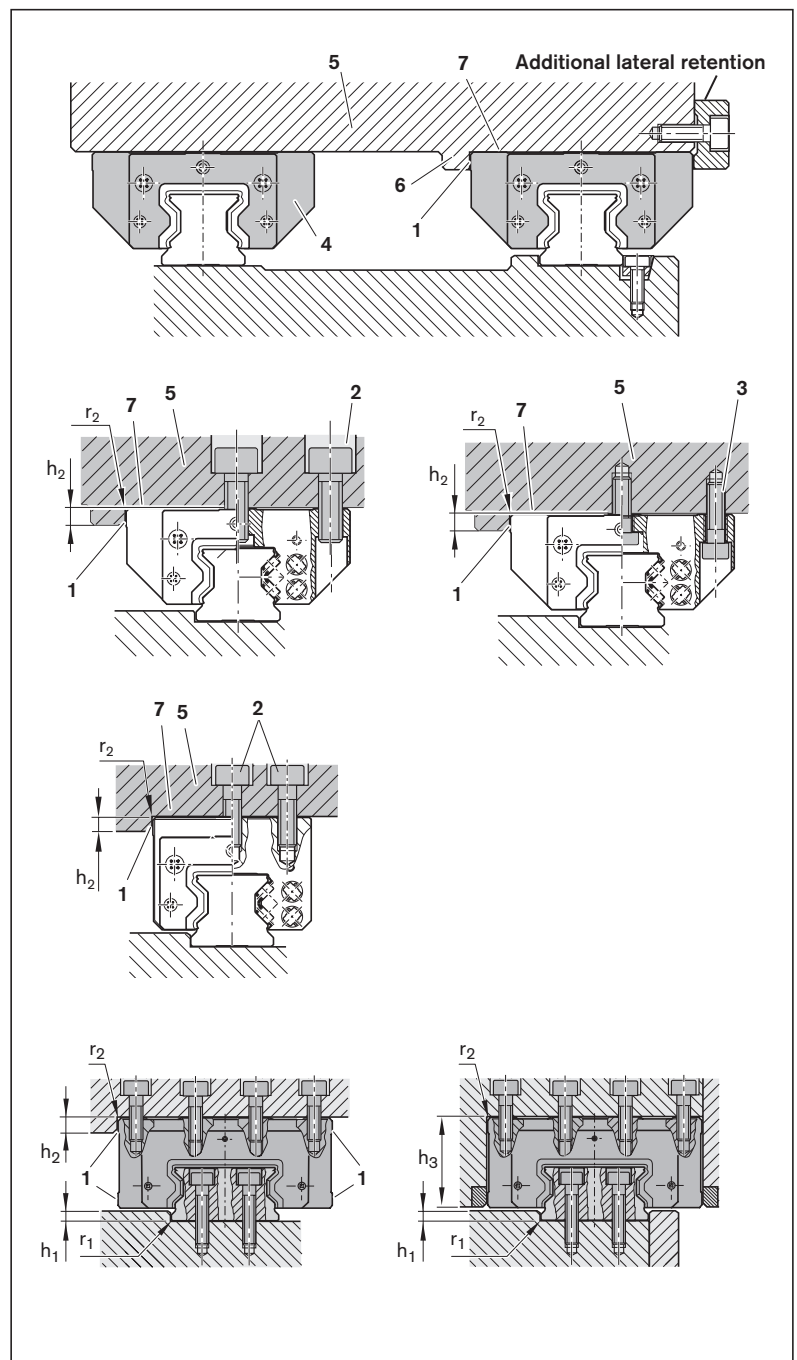

Fig. 55: Mounting attachments to runner blocks
1. Lay the attachment (1) down on a non-slip surface (2).
5. If required, press the runner block against the reference edge (3) and mount additional lateral retention  Fig. 55.